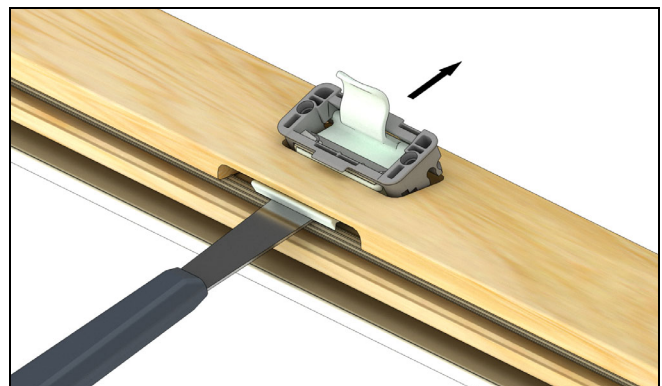

Figure 84
4. Place a putty knife between weather strip and latch. Gently pull Lift Lock at slight angle out of sash route. See Figure 84.